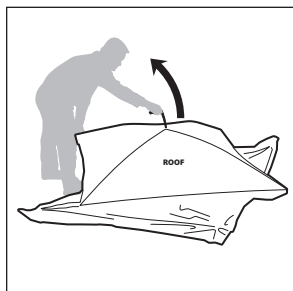

FIGURE 2
3. Grab the pull handle on the eyelet located in the center of the roof and pull upward so the roof portion pops open. **SEE FIGURE 2.**